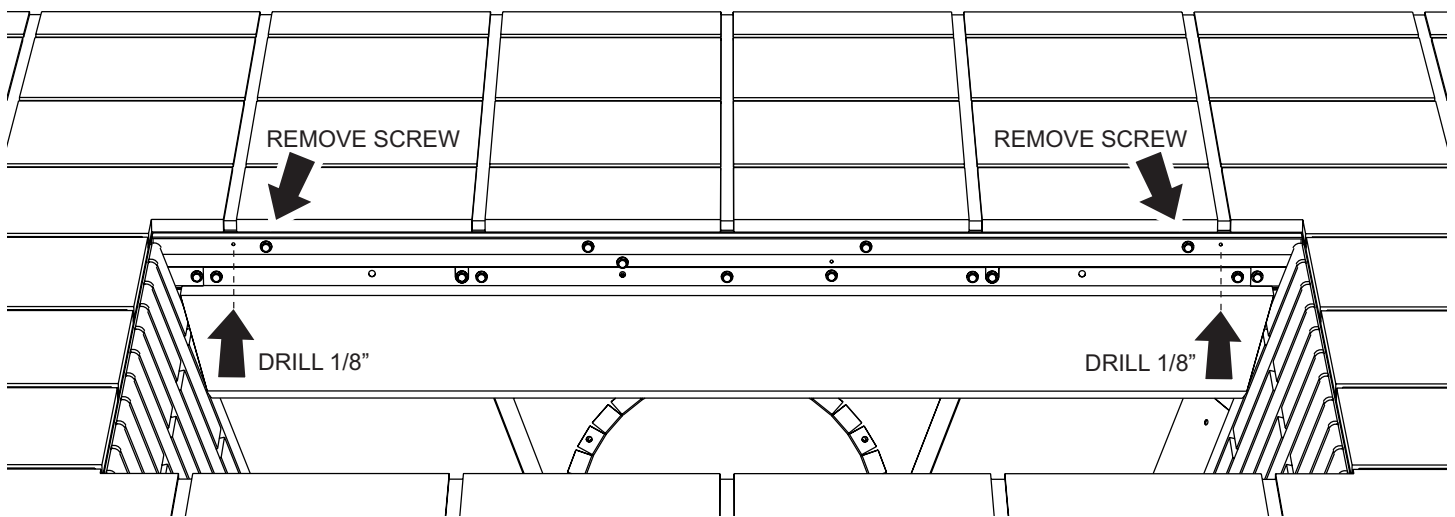

Figure 5
5. Using an electric drill, drill two (2) 1/8" holes as shown in **Figure 5**. The Top Lip has guide holes for locating these drilled holes.
6. Using a 5/16" hex driver, remove the two Hex-Head Screws shown in **Figure 5**.